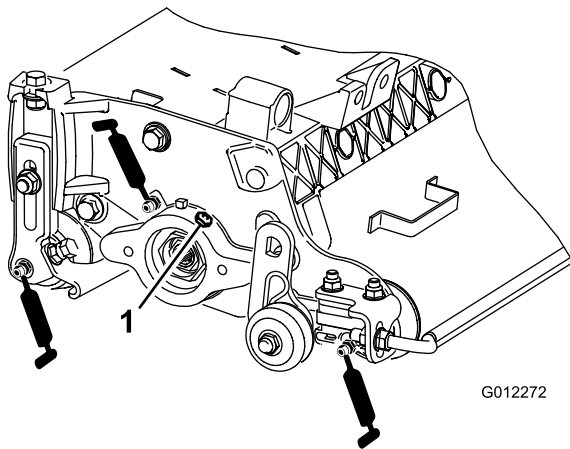

Figure 8
Each verticutter has 6 grease fittings (Figure 8) that must be lubricated weekly with #2 general-purpose, lithium-based grease.
2. Apply grease until clean grease is seen coming out of the roller seals and the bearing relief valve (Figure 8).